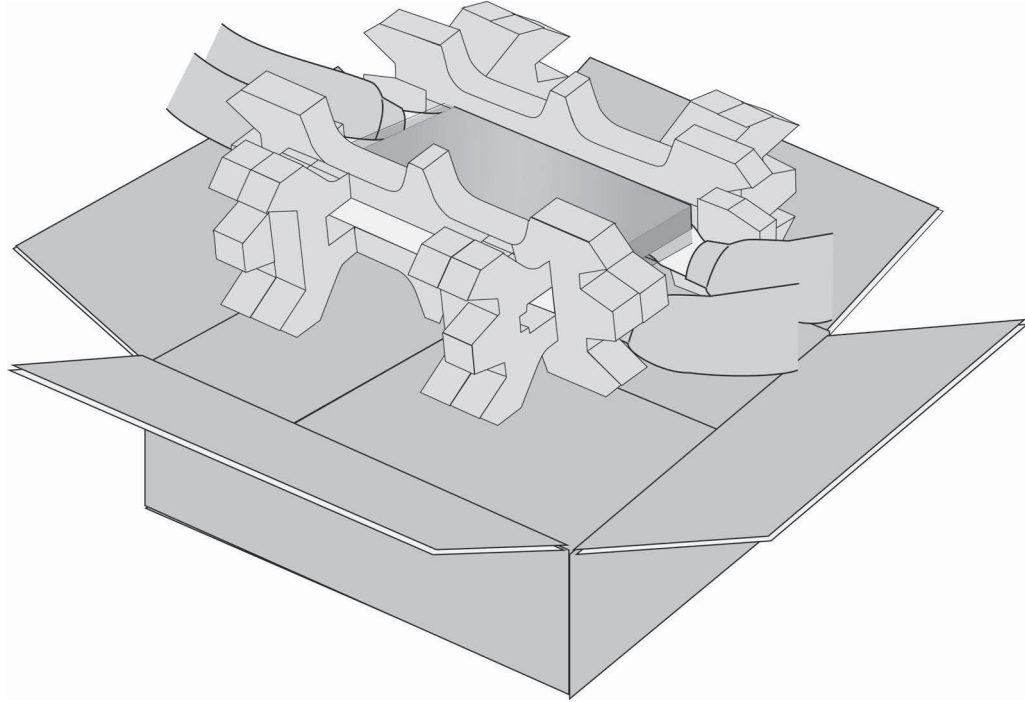

Figure 51. Lifting the Switch from the Shipping Box
3. Lift the switch from the shipping box and place it on a level, secure table. Refer to Figure 51 on page 119.